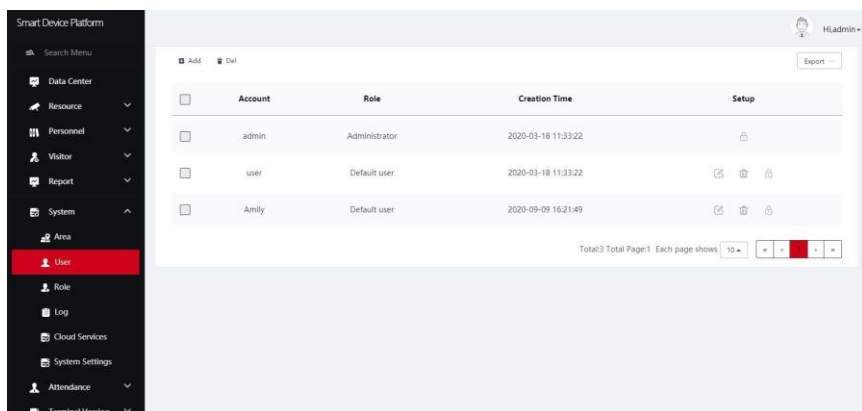

Figure 5-71
Step 1: In the smart device platform interface, click "System→User" to enter the user management interface, as shown in Figure 5-71 below.